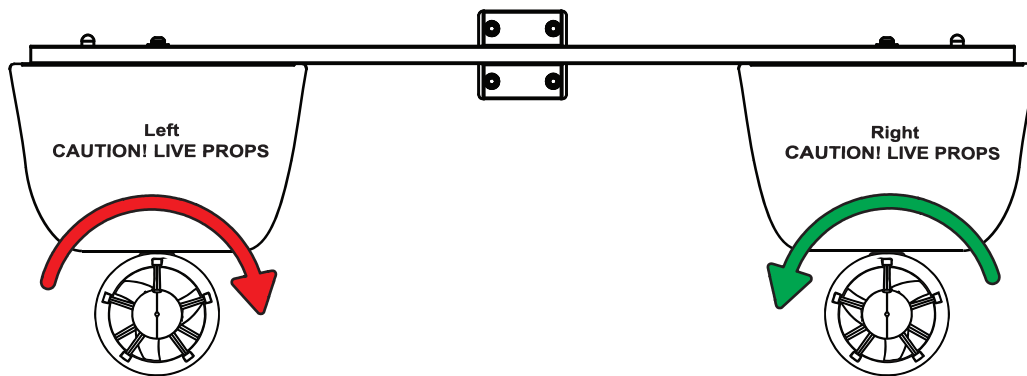

Figure 27: HydronTM RCV Prop Rotation
- Motor must rotate clockwise(CW) (Figure 27)
- Motor must rotate counter-clockwise(CCW) (Figure 27)